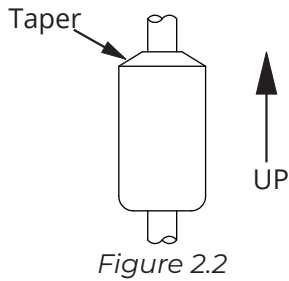

Figure 2.2
- The float(s) is/are oriented properly on the stem (See Figure 2.2). MPI-F floats are installed by customer.
- Slide floats onto stem. If using two floats, slide the lighter float on first. Tops of floats will be indicated by sticker, taper, or etching on float. (See Figure 2.2) After ensuring top of float is toward MPI-F sensor head, remove sticker(s).